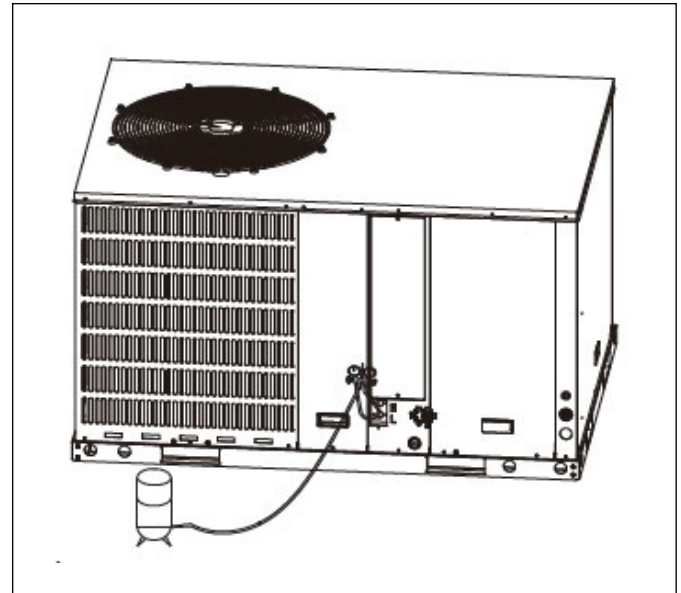

Figure 27
- Connect gauges to refrigerant bottle and unit as illustrated (Figure 27).